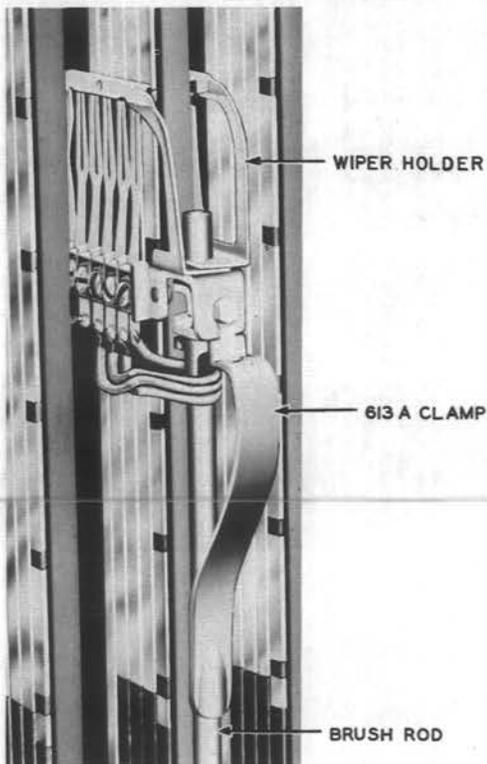

Fig. 6 — 613A Clamp Mounted in Position on Brush Rod
3.04 Mounting 613A Clamp: Fig. 6 — Raise the brush rod sufficiently to permit mounting the clamp. To mount the clamp, proceed as follows. From the right of the brush rod, hook the clamp behind the rod just below the commutator brush frame. Raise the clamp against
3.11 Brush Frames Not Equipped With Rear Guides: First place the left leg of the wiper holder over the brush rod and then the right leg as shown in Fig. 6. With the legs positioned on the rod, place the finger at the top of each side of the holder toward the rear. Press down equally on both sides until the triangular projection on the inside of the holder slips over the rear of the brush frame and snaps in place underneath the frame. In this position the ears on the inside of the holder should rest on the top surface of the brush frame. Check this by using the 376A dental mirror. Then proceed as covered in 3.13.